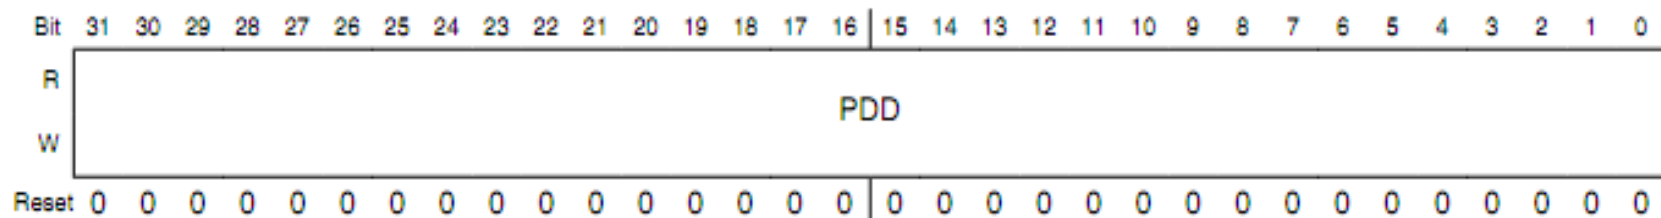

Figure 2. GPIO Port Data Direction Register (GPIOx_PDDR)
- As explained previously, in the Kinetis microcontrollers, the GPIO are connected into ports of 32 pins each. Each of these ports have a separate set of registers to control the pins. To control whether the GPIO pin is used as an input or an output, the user can set a bit in the Port Data Direction Register (GPIOx_PDDR) shown below in Figure 2.